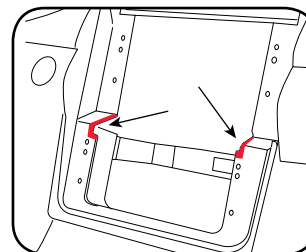

Fig. 1.7
7. **Full size DDIN chassis radios** : cut the factory dash as shown for clearance. Not required for radios with top half chassis. (Fig. 1.7)